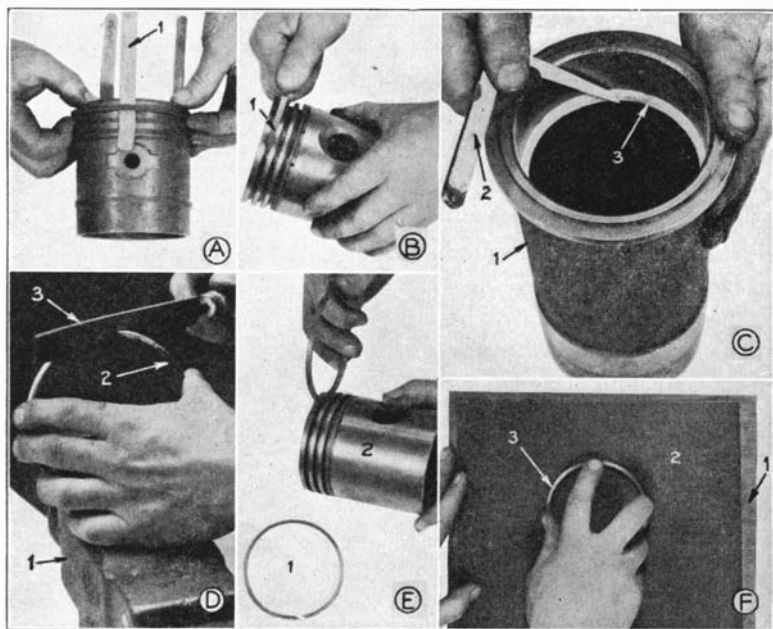

Fig. 11.—Fitting piston rings
Pistons and connecting rods should be removed, cleaned, and inspected every 700 to 1,200 hours. Remove piston rings as shown in *Fig. 11-A*. Oil splashing up against the underside of the hot piston head burns and forms carbon, which must be scraped off or it will
accumulate in sufficient quantity to break loose and drop into the crank-case. Carbon on the underside of the piston causes the piston to run hotter. Clean the piston-ring grooves with a screw driver or a piece of broken piston ring, being very careful not to scratch the sides of the groove (*Fig. 11-B*). Scratching the sides of the groove may cause the rings to stick when the engine becomes hot and prevent their proper functioning.
Piston rings after being removed, as discussed under *pistons*, should be cleaned and checked for side wear in their grooves and for gap clearance in the cylinder. The top ring will usually show considerable wear, especially if a low-grade fuel is used. Put each ring in the proper cylinder and with the piston push the ring more than half-way down so that the ring will be placed squarely in the cylinder (*Fig. 11-C*). Measure the gap or end clearance with a thickness gage. If new oversized rings are used, adjust the ring gap clearance by filing (*Fig. 11-D*) as follows:
1. **Fit ring to piston groove** as shown in Fig. 11-E. If ring is too tight, dress it down in width until it moves freely in the groove. The ring can be dressed by rubbing it on a sheet of fine emery paper placed on a smooth surface (Fig. 11-F).
2. **Check ring in cylinder** for proper gap clearance, as previously described (Fig. 11-C). Do this part of the work very carefully.
3. **Assemble rings on pistons**, using the three metal strips, as shown in Fig. 11-A. When the rings are fitted with different gap clearances, put the ring with the most clearance in the top groove.